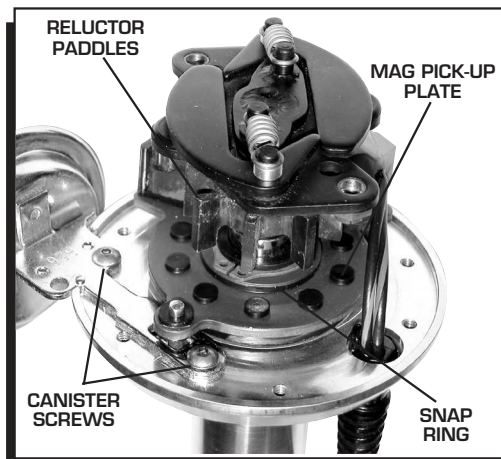

Figure 14 Removing the Vacuum Canister.
1. Remove the two Allen head screws that hold the advance canister (Figure 14).